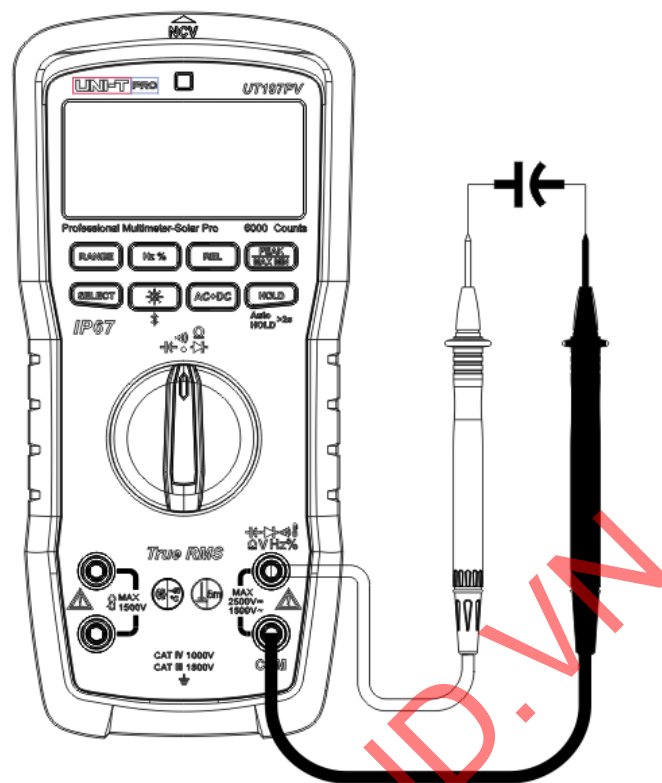

Figure 12
9. Capacitance measurement (Figure 12)